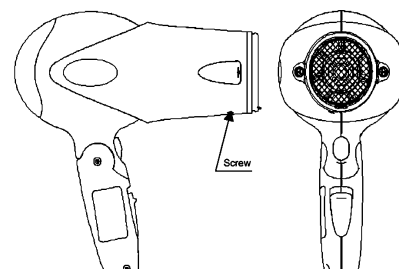

Figure 11
10. Put Air Outlet Grill in Air Outlet Ring, assembly Air Outlet Ring with Housing by rotate clockwise, drive with screw as shown, then finally attached with nozzle as shown in Figure 11.